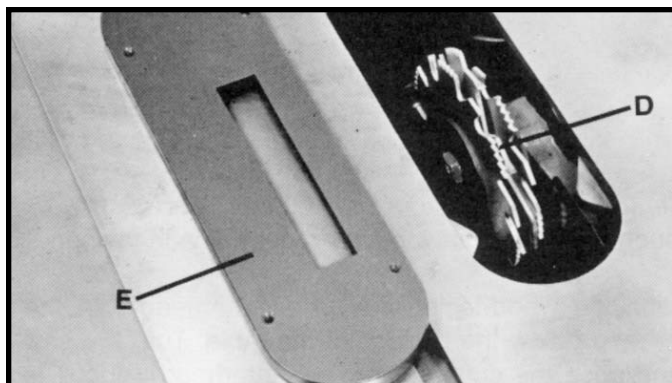

Fig. 133
The dado head set (D) Fig. 133, is assembled to the saw arbor as shown. **NOTE: THE OUTSIDE ARBOR FLANGE CAN NOT BE USED WITH THE DADO HEAD SET, TIGHTEN THE ARBOR NUT AGAINST THE DADO HEAD SET BODY. DO NOT LOOSE THE OUTSIDE ARBOR FLANGE, FOR IT WILL BE NEEDED WHEN REATTACHING A BLADE TO THE UNISAW ARBOR. ALSO, THE ACCESSORY DADO HEAD SET TABLE INSERT (E) FIG. 133, MUST BE USED IN PLACE OF THE STANDARD TABLE INSERT.**